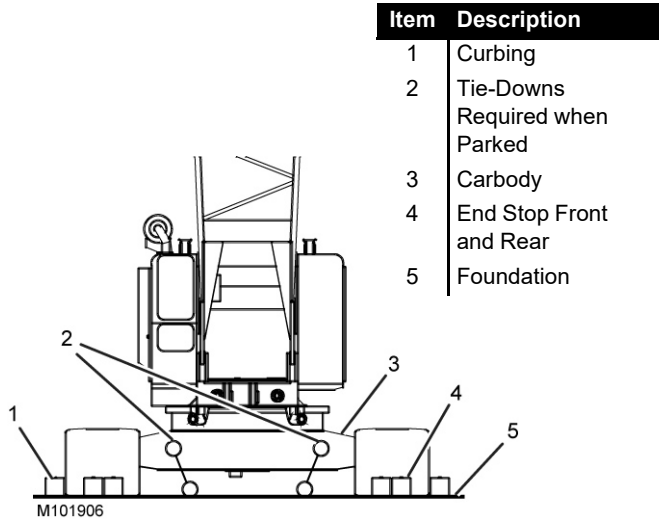

Figure 2-10. Crawler-Mounted Crane
2. Crawler-mounted crane working on a timbered area of the barge, ship, or floating platform with the crawlers restrained by curbing and end stops (Figure 2-10). When not working, the crane carbody is anchored with tie-downs to the foundation. **Traveling with load is not permitted.**